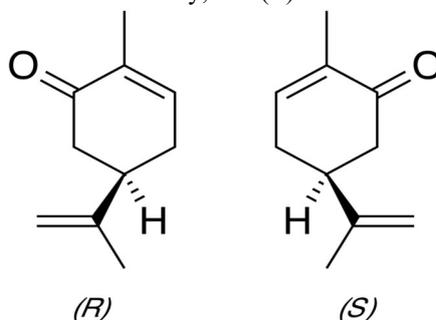

Fig. 3.10. Structure of carvones.
- Depending on the stereochemistry, the two isomers may have a different smell, for example (*S*)-Carvone has the odor of caraway, and (*R*)-Carvone has the odor of spearmint (fig. 3.10).